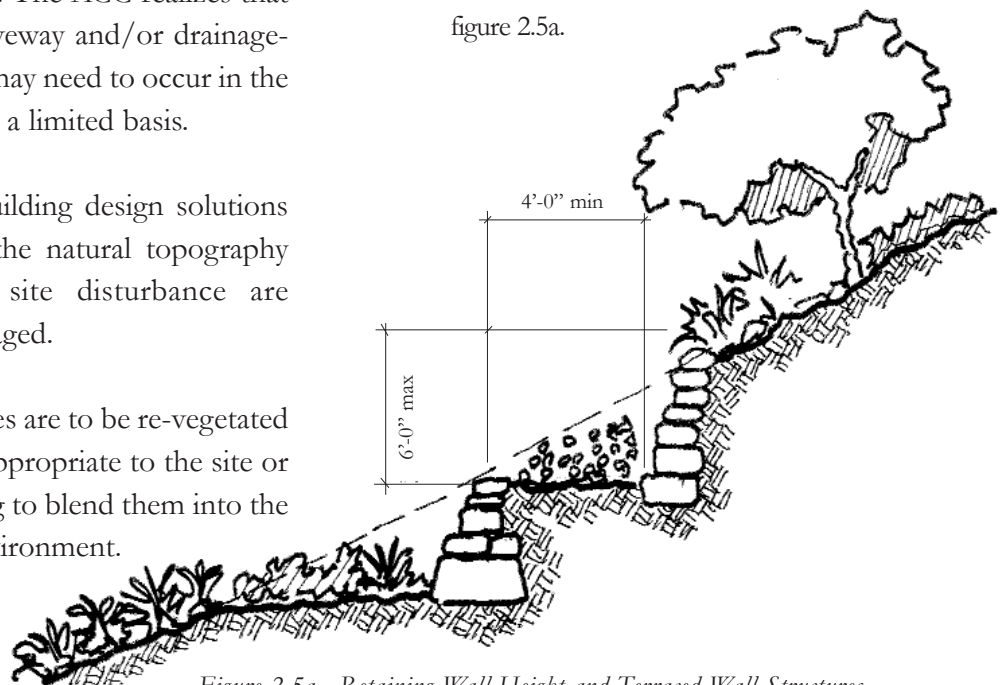

Figure 2.5a - Retaining Wall Height and Terraced Wall Structures
- The maximum height of retaining walls is 6 feet as measured from the lowest finished grade level to the top of the wall. Retaining walls include any wall that retains earth 2 feet or more in depth. Retaining walls shall be built to extend and/or blend with the existing topography. See figure 2.5a.
- Where grade changes exceed 6 feet, stepped-back or terraced wall structures with planting terraces (4 feet minimum width) are to be used. Retaining walls greater than 6 feet may be approved if the Applicant demonstrates that such a design solution minimizes overall impacts to the site. See Figure 2.5a.